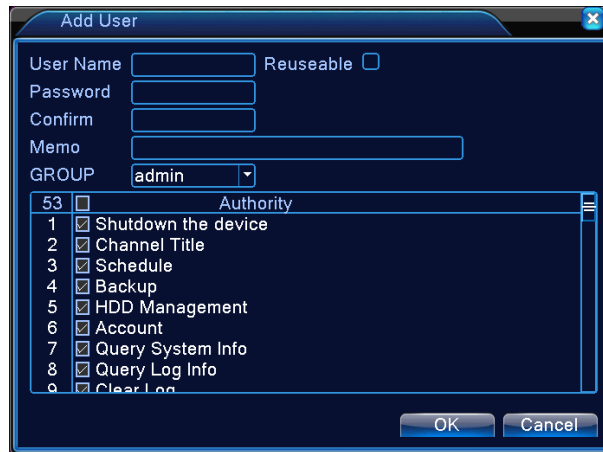

Figure 4.33 Add User
**Delete Group:** This option allows you to delete an existing group (ensure that there is no user in this group). As shown in Figure 4.29, click **Delete Group** and figure 4.33 pops up, select the group to be deleted, and click **Delete**.